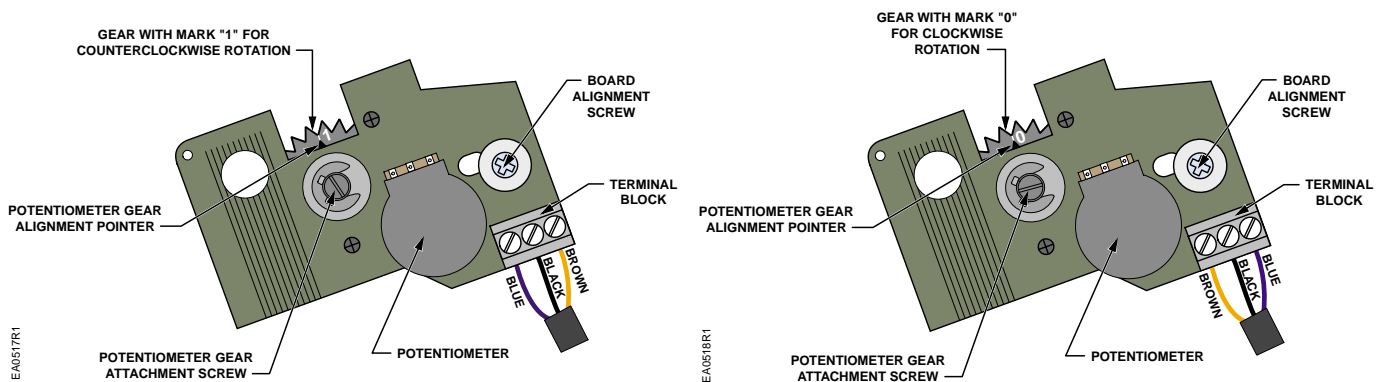

Figure 17. Reversing Rotational Direction on the ASZ Potentiometer Board.
5. See *Figure 17*. Disconnect the blue and brown wires from the terminal block located on the ASZ... potentiometer circuit board.
9. See *Figure 17*. Loosen the black potentiometer gear attachment screw approximately one turn. Gently wedge a small screwdriver between the potentiometer gear and the gray plastic housing. Gently twist the screwdriver until the potentiometer gear releases from the cam drum shaft.
2. Disconnect the blue, black and brown wire from the potentiometer terminal block. See *Figure 17*.
2. Align the board alignment screw hole in the potentiometer board and install the board alignment screw. See *Figure 17*.
4. Manually rotate the potentiometer gear until the white line next to the "0" or "1" mark on the potentiometer gear face is **exactly** in alignment with the potentiometer gear alignment pointer. See *Figure 17*. For counterclockwise (ccw) operation the line beside the "1" mark must exactly align with potentiometer gear alignment pointer. For clockwise (cw) operation the line beside the "0" mark must exactly align with potentiometer gear alignment pointer. Firmly tighten the black potentiometer gear attachment screw while manually holding the potentiometer gear in alignment. Check the alignment again.
5. Connect the bundled blue, black and brown potentiometer wires to the terminal block located on the ASZ... potentiometer circuit board. See *Potentiometer Installation* and *Figure 17*.